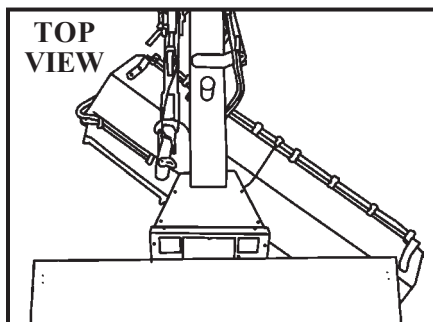

FIGURE 1
1. Set the broom angle to that needed. (See Figures 1, 2 and 3).